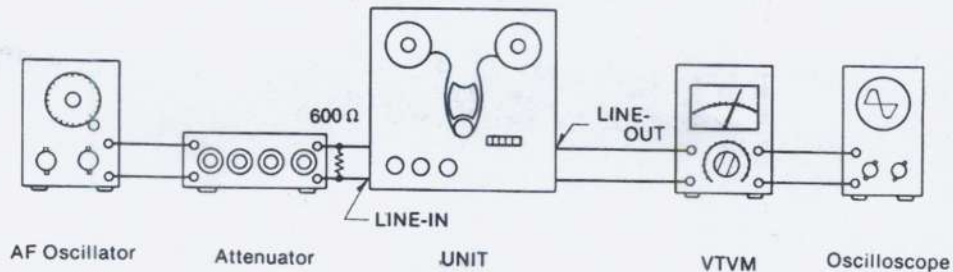
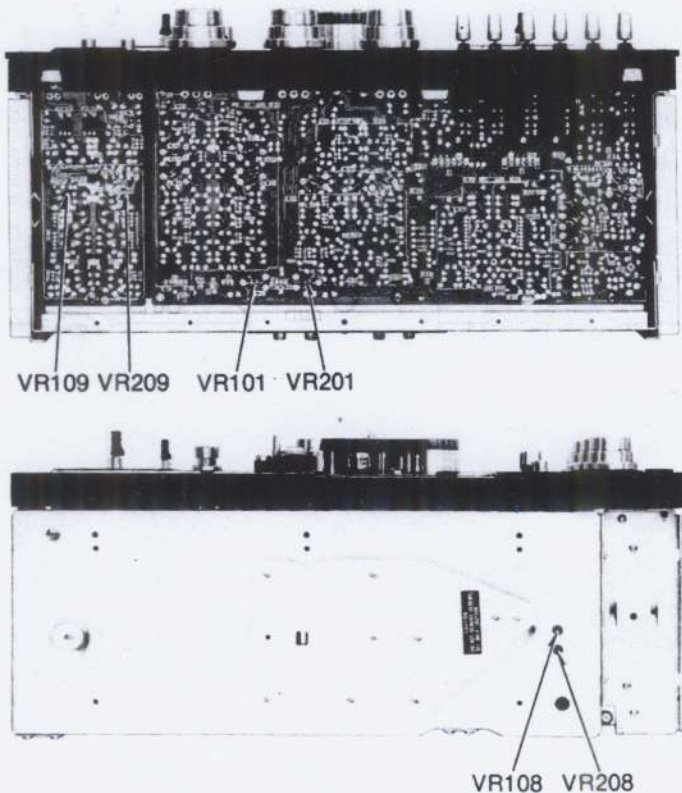

Fig. 48
Fig. 49
Standard recording level	<p>1. Test equipment connections are shown in fig. 48.</p> <p>2. Supply 1 kHz signal ($-22\text{dB} \pm \frac{1}{3}\text{dB}$) from AF oscillator, through ATT, to balanced type line input connectors.</p> <p>3. Set the output control to "8" position on front panel and confirm that the output level at balanced type line output connectors on VTVM becomes 1.228 V.</p> <p>[Adjustment]</p> <p>1. If the measured value is not within standard value, adjust the Line-in level adjustment VR, VR101 (L-CH) and VR201 (R-CH), (See fig. 49.)</p> <div style="border: 1px solid black; padding: 5px; margin-top: 10px;"> <p>Standard recording levels: Line-in (Balanced): $-22\text{dB} \pm \frac{1}{3}\text{dB}$ Mic-in: $-72\text{dB} \pm 2\text{dB}$</p> </div>
<p>Level meter for source monitor</p>	<ol style="list-style-type: none"> 1. Test equipment connections are shown in fig. 48. 2. Set the monitor selector to "SOURCE" position. 3. Set the output control to "8" position on front panel. 4. Supply 1 kHz signal ($-22\text{dB} \begin{smallmatrix} +1 \\ -3 \end{smallmatrix} \text{dB}$) from AF oscillator, through ATT, to balanced type line input connectors. 5. Adjust ATT so that the output level at LINE-OUT jacks on VTVM becomes 1.228V. 6. Then confirm that the level meter indicates 0VU position. <p>[Adjustment]</p> <ol style="list-style-type: none"> 1. If the level meter does not indicate 0VU position in the above condition, adjust the level meter adjustment VR, VR108 (L-CH) and VR208 (R-CH). (See fig. 49.)
<p>Level meter for tape monitor</p>	<ol style="list-style-type: none"> 1. Test equipment connections are shown in fig. 48. 2. Place unit in the same condition as for "Standard recording level adjustment." 3. Thread "open" blank test tape (QZZORA218EX). 4. Set the monitor selector to "tape" position (both channels). 5. Set the recording mode selector to "ON" position (both channels). 6. Place unit into recording mode. 7. Then confirm that the level meter indicates 0VU. <p>[Adjustment]</p> <ol style="list-style-type: none"> 1. If the level meter does not indicate 0VU in the above condition, adjust the level meter adjustment VR, VR109 (L-CH) and VR209 (R-CH). (See fig. 49.)
- Measurement instrument connections are as shown in figure 48.